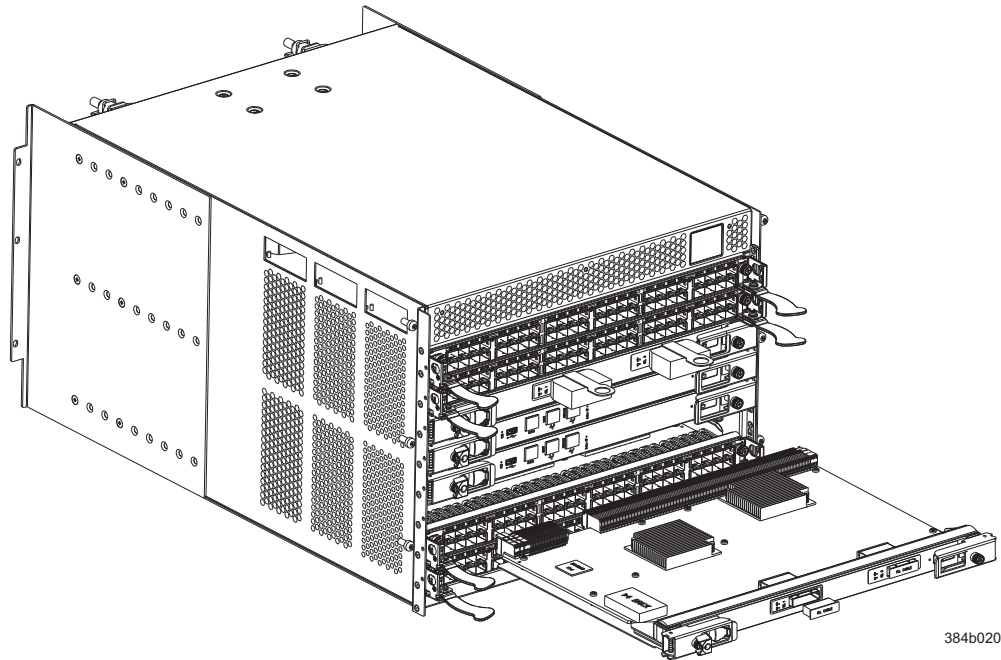

Figure 38. Removing and replacing the core switch blade
This section describes how to remove and install a core switch blade. The SAN384B has two core switch blades: one in slot 3 and one in slot 6. Note that the blade shown in Figure 38 on page 77 is shown with EMI plugs installed.
5. Open both ejectors simultaneously to approximately 45 degrees and pull the core switch blade out of the chassis (Figure 38 on page 77).